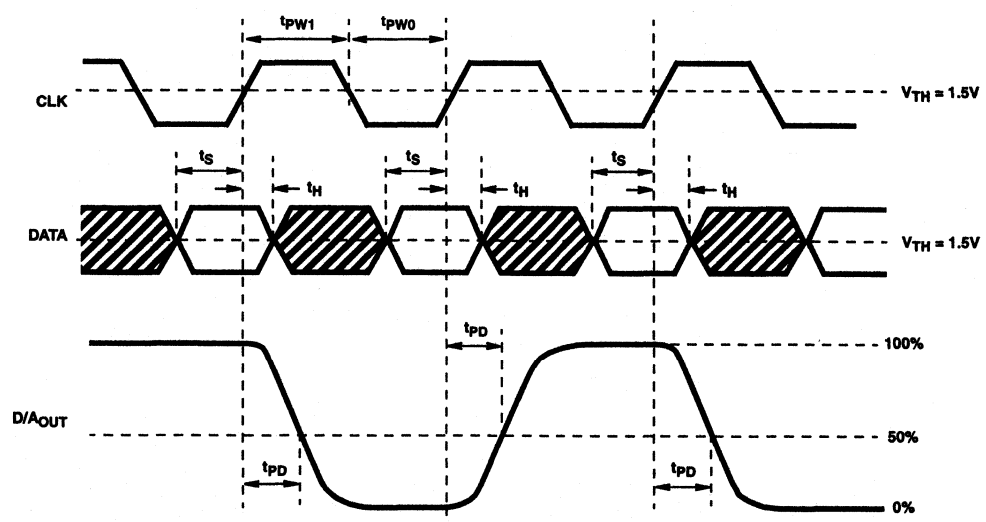

FIGURE 6.
- See Figure 6 in the Timing Diagram.
To make the best use of the inherent characteristics of this D/A converter the phase relation between the data and clock applied from the exterior, should be properly set. Set up time (tS) and Hold time (tH) should be as indicated in the Electrical Specifications. For tS and tH refer to Figure 6 in the Timing Waveform. Also, set the clock pulse width according to the Recommended Operating Conditions.